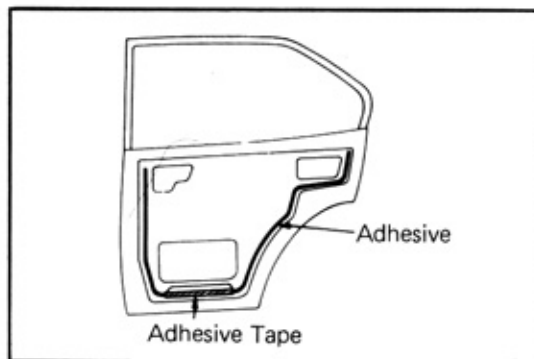

Fig. 2-50 Taping Location
**Install the service hole cover with adhesive. Stick on the tape at place shown in Fig. 2-50.**